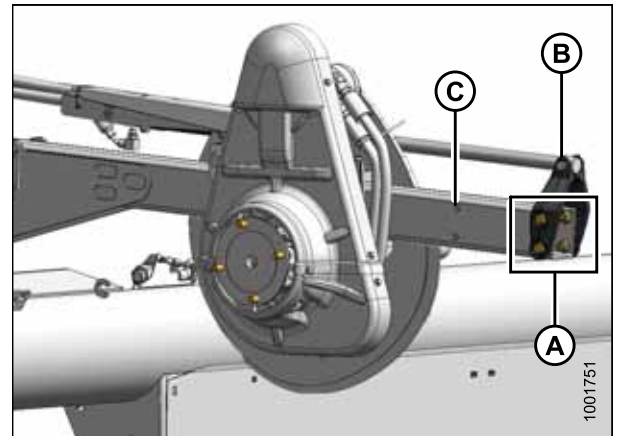

Figure 3.38: Forward Position
3. Remove four bolts (A) securing cylinder bracket (B) to reel arm.
4. Position reel until bracket (B) lines up with desired position holes (C):
- Forward position, refer to Figure 3.38, page 63